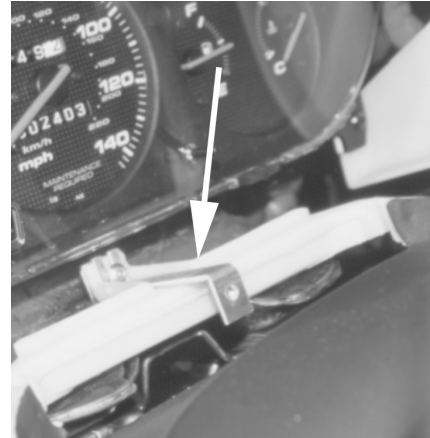
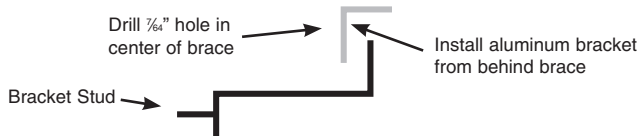

Fig. 2 - Bracket installed on Honda Civic
Fig. 1 - Bracket installation for Acura Integra
2. **Acura Integra** - Drill $\frac{7}{64}$ " hole in the plastic cross member. Install aluminum bracket (Fig. 1). Bracket stud should align with hole in lower center of gauge bezel.
Honda Civic - Remove bottom center screw from gauge cluster housing. Reinstall screw and supplied aluminum bracket (Fig. 2).
5. Attach bottom of bezel to aluminum bracket using supplied hardware. (See figure 1 for Acura, or figure 2 for Honda)